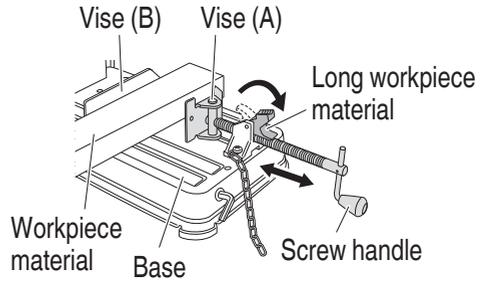

Fig. 5
- Procedure for fixing the cutting material (Fig. 5 and 6)
Place the workpiece material between vise (A) and vise (B), raise the clutch and push the screw handle to bring vise (A) lightly into contact with the workpiece material, as shown in Fig. 5.